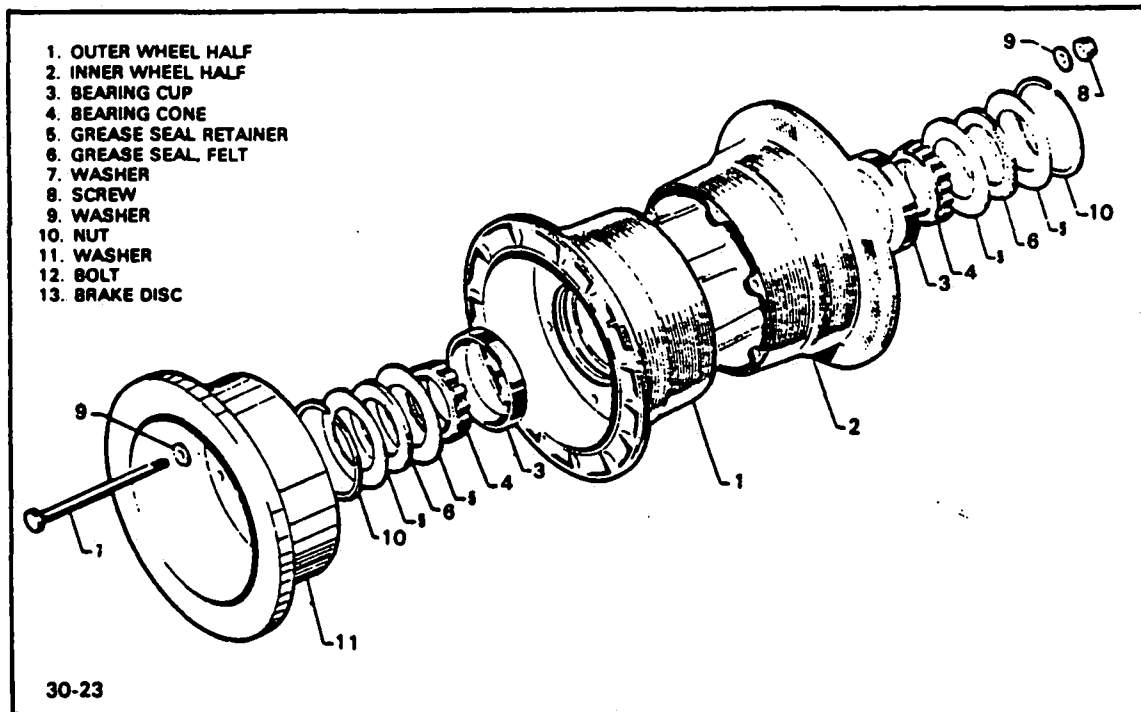

Figure 7-21. Main Wheel Assembly, Serial Nos. 30-846 to 30-2000 incl.
d. On airplanes with Serial Nos. 30-846 to 30-2000 inclusive, remove and disassemble the wheel as follows (Refer to Figure 7-21):
3. The wheel may be disassembled by deflating the tire and removing the snap rings (10) securing the grease seals (6) and seal retainers (5).
4. Remove the bearing cones (4) and remove the bolts (7) securing the wheel halves.
5. The bearing cups (3) should be removed only for replacement and may be removed by tapping evenly from the inside of the wheel.